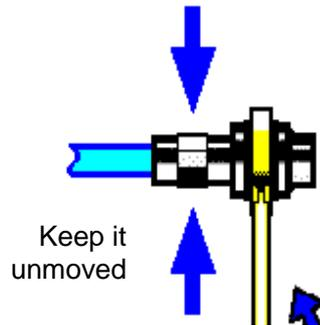

Fig. 2.5 Completion of Final Connection with a Torque Wrench
Step 3. As shown in Fig. 2.5, use a torque wrench to tighten the connectors and finish the connection; the torque wrench shall not exceed the starting break point and an auxiliary wrench can be used to prevent the connector rotating.